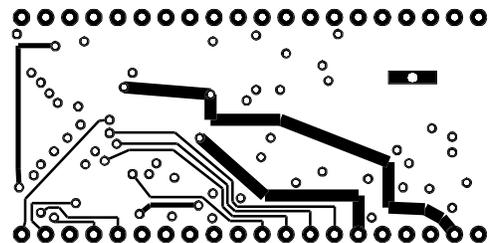

Figure 8. Bottom Layer (Not to scale).
- The fourth layer is shown in figure 8.